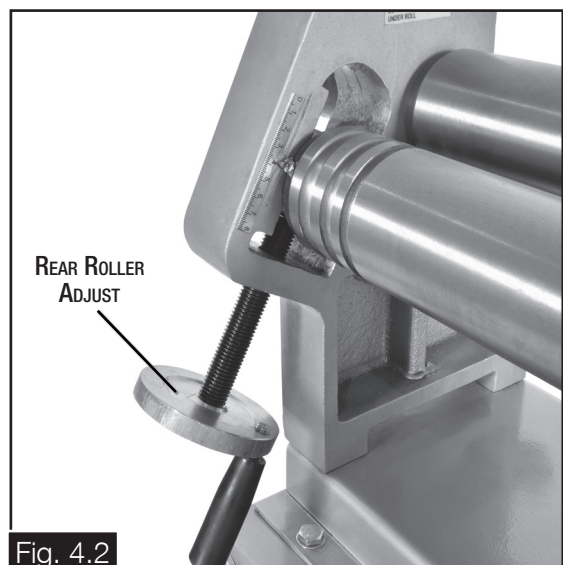

Fig. 4.2
3. Adjust the back roller in small increments to create a curve in the sheet metal. (Fig. 4.2)